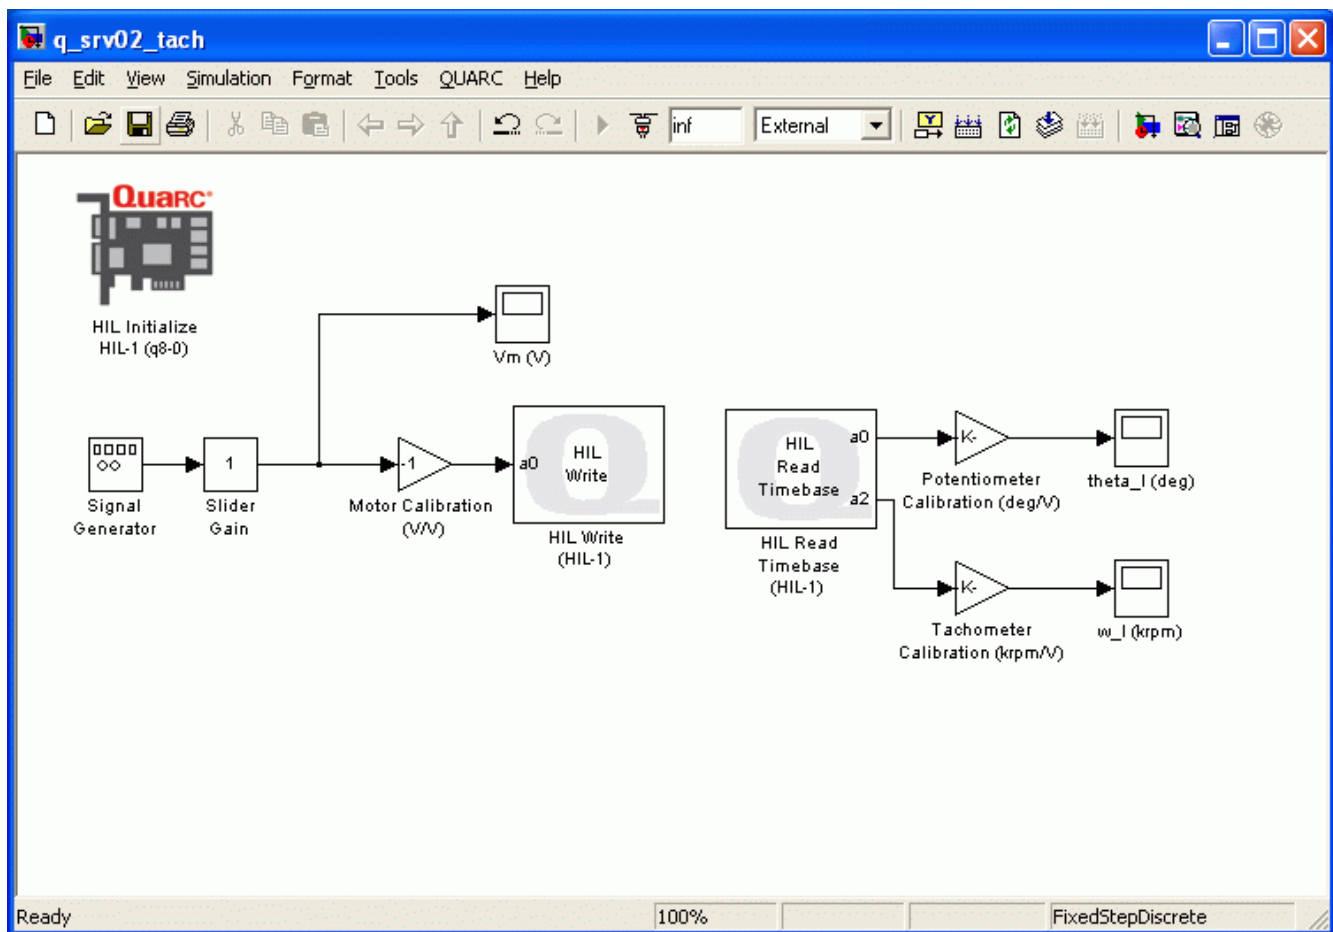

Figure 10: Simulink model used to send voltage to SRV02 and read its potentiometer and tachometer sensors.
4. Connect the Scope and Gain blocks as depicted in Figure 10, above. That is, connect the Gain block to the output of Channel #2 from the HIL Read Timebase block and label it *Tachometer Calibration (rpm/V)*. Then, connect the output of this gain block to the input of the Scope block and label the scope *w_1 (rpm)*. This scope will display the measured speed of the load gear in thousand revolutions per minute.
6. Open the *V_m (V)* and the *w₁ (rpm)* scopes.